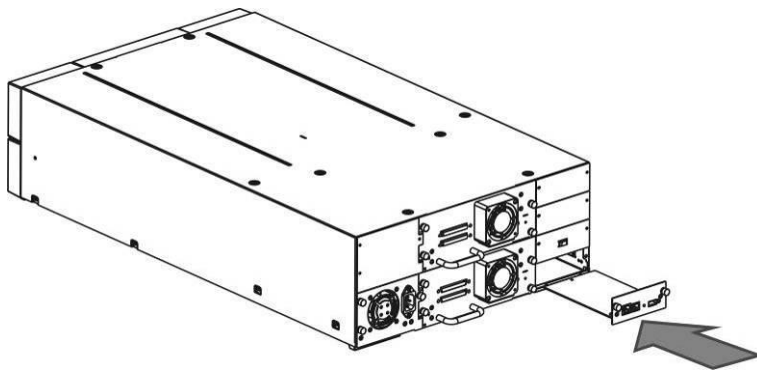

Figure 34 Install a library controller (4U)
4. Insert the library controller on the alignment rails and push the library controller into the library controller bay until it seats itself against the back of the library, see **Figure 34**.